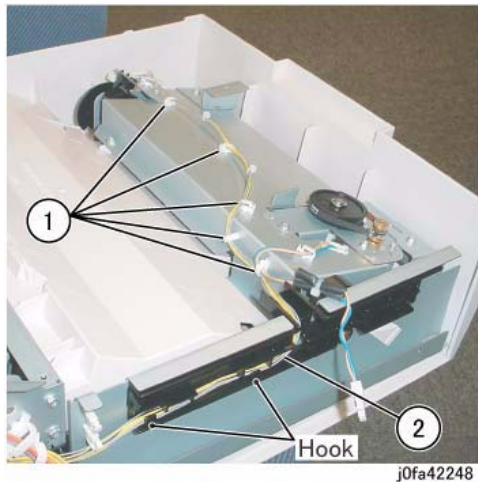

Figure 2 Disconnecting the Wire (j0fa42248)
8. Release the Clamps and the Hook to remove the wire. (Figure 2)